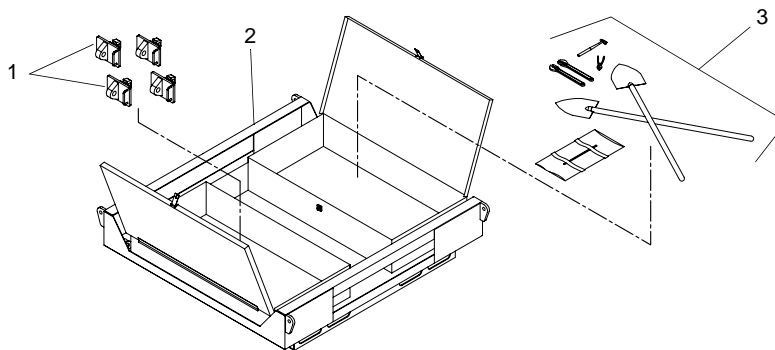

Figure 15. Storage Box Pallet
11. Place horizontal deadman padeyes (figure 15, item 1) in storage box pallet (figure 15, item 2).
12. Place ground tackle and tools (figure 15, item 3) in storage box pallet (figure 15, item 2). Close and latch storage box pallet (figure 15, item 2) doors.